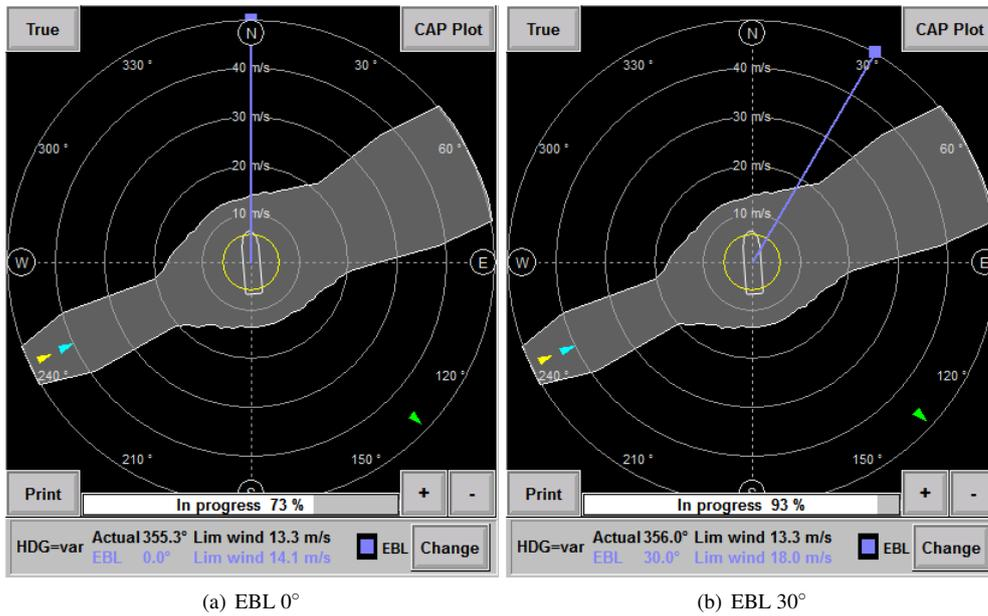

Figure 10.59: Limiting Wind Speeds for Different EBL Directions
- Assume, the operator needs to know the limits for the vessel heading 0°. For this purpose EBL value should be set as 0°. The limiting wind speed is about 14.1 m/s (see Figure 10.59).